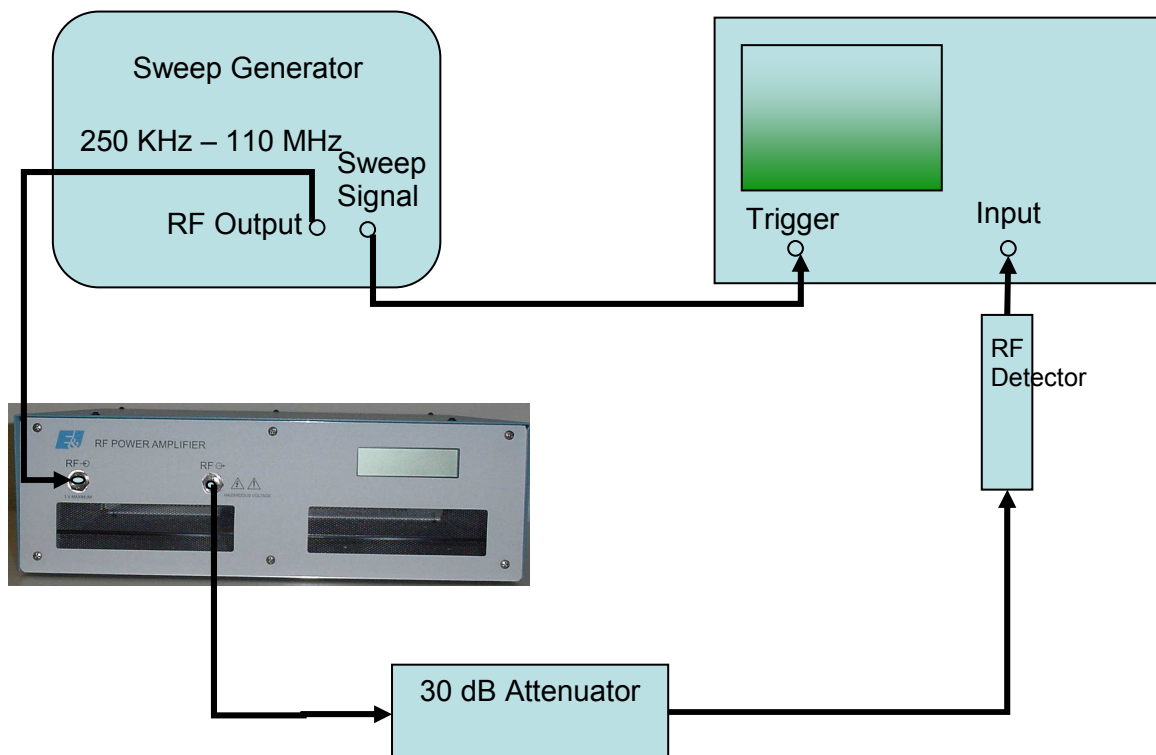

Figure 4-1. Gain Measurement
2. Connect the equipment as shown in Figure 4-1, then proceed as follows:
- g) Reconnect the 350L into the test set-up of Figure 4-1.